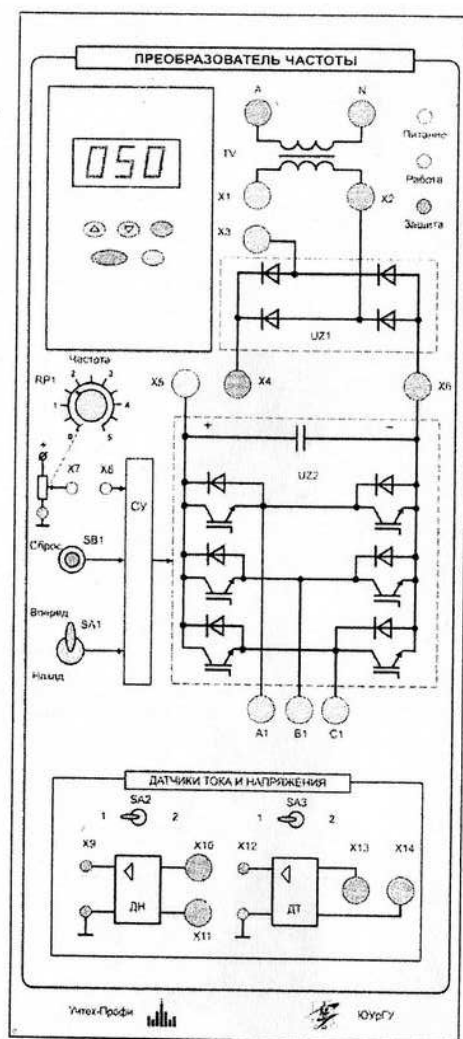

Рис. 1: Frequency converter
The front panels of the “Frequency Converter” and “Load” modules are shown in Fig. 1,2 respectively. The Frequency Converter module (see Fig. 1) contains:
The Frequency Converter module consists of two units (see Fig. 1). The first unit of the frequency converter (FC) is an uncontrolled diode rectifier (*UZ1*), made using a single-phase bridge circuit. The second unit is a three-phase AVI made on IGBT transistors (*UZ2*). A capacitive filter is enabled at the *UZ2* input.